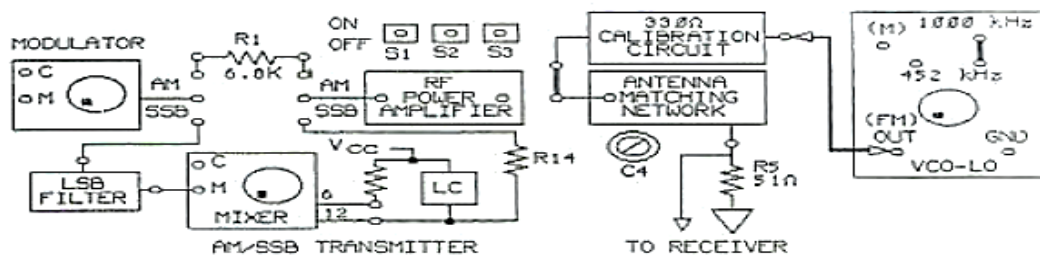

Figure 2-22(a).
1. Locate the AM/SSB TRANSMITTER and VCO-LO circuit blocks on the ANALOG COMMUNICATIONS circuit board, and connect the circuit shown in Figure 2-22(a). The VCO circuit block connects to the input of the 33052 CALIBRATION CIRCUIT: a two-post connector connects the 33052 CALIBRATION CIRCUIT to the ANTENNA MATCHING NETWORK, Figure 2-22(b) shows the schematic of this circuit. Set S_1 , S_2 , and S_3 to OFF.